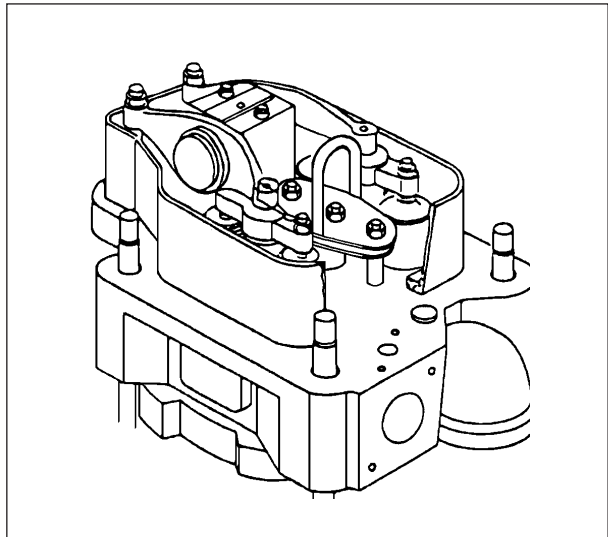

Fig 2
- 11) Mount the lifting tool by means of the two nuts. See Fig 2.